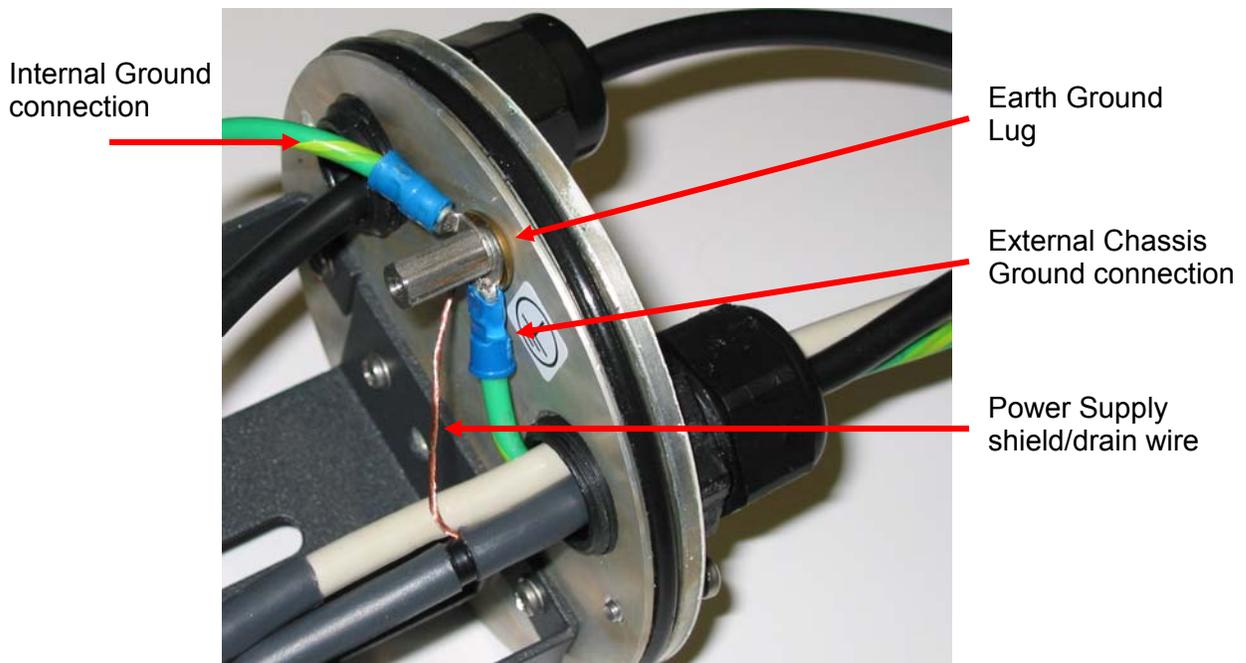

Figure 3-2: Earth Ground Connection
When the camera is shipped from FLIR, an internal ground wire (green) connects the interface board to the Earth Ground Lug, located on the inside of the rear of the enclosure¹. If it is disconnected during the installation, it must be reconnected. For proper installation, a ground connection from an external Earth ground must be connected to the Earth Ground Lug as shown in Figure 3-2: Earth Ground Connection. Typically the Earth ground connection will be part of the power cable bundle.
7. Connect the External Earth Ground lead to the Earth Ground Lug on the inside of the rear of the enclosure (refer to Figure 3-2: Earth Ground Connection) The Internal Earth Ground connection should already be connected to the Earth Ground Lug.